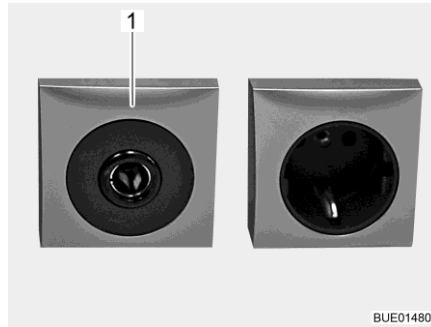

Fig. 189 12 V/10 A socket
- ▷ Only connect devices with a maximum of 10 A to the sockets (Fig. 189,1) of the 12 V power supply.